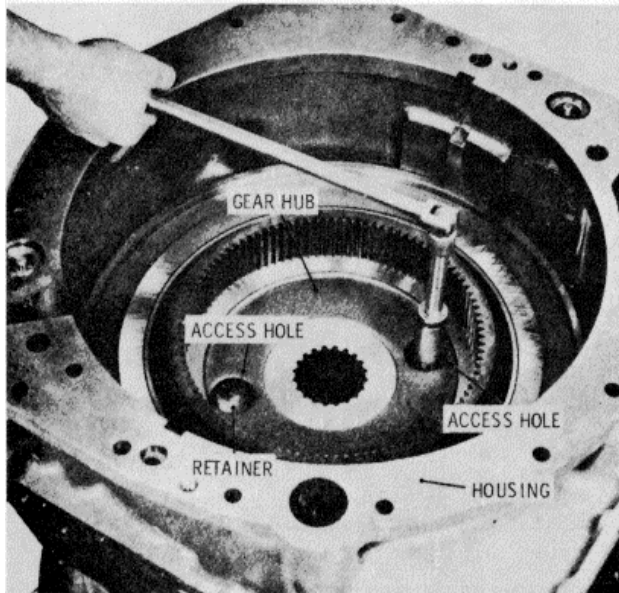

Figure 15-85. Removing Splitter Ring Gear Hub Bearing Retainer Bolts
5. Through access holes provided in the splitter ring gear hub, remove six bolts and lockwashers that secure the ring gear hub bearing retainer to the transmission housing (Figure 15-85).